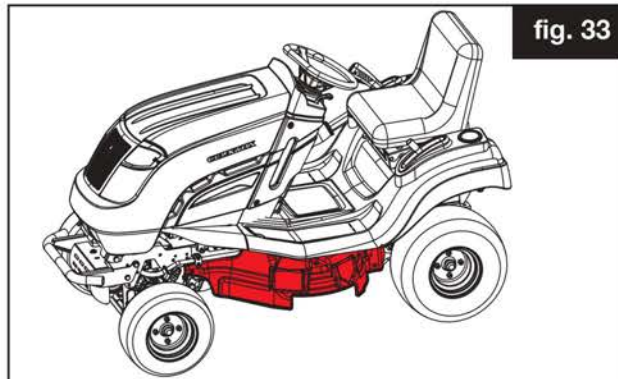
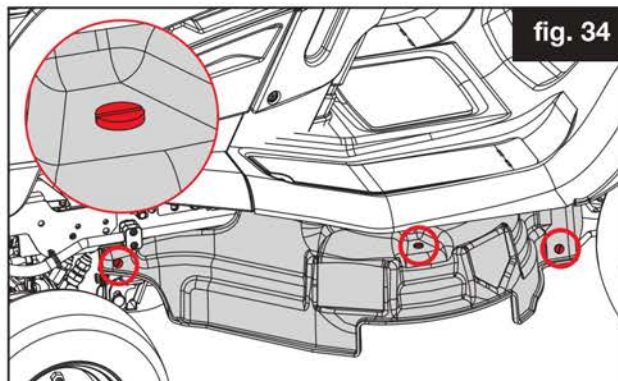

fig. 33
fig. 34
Side Guards (fig. 33)
Tractors produced from October 2014 are fitted with plastic side guards as standard (see fig. 33). One guard is fitted either side of the tractor. These guards are safety devices designed to shield the pulleys and belts located under the chassis. Side guards must be fitted at all times when the tractor is in use. Guarding must only be removed when performing maintenance and deck removal / installation.
1. To remove the left side guard (fig. 33), rotate each of the three slotted fixings (fasteners circled in fig. 34) 45 degrees to the open position.